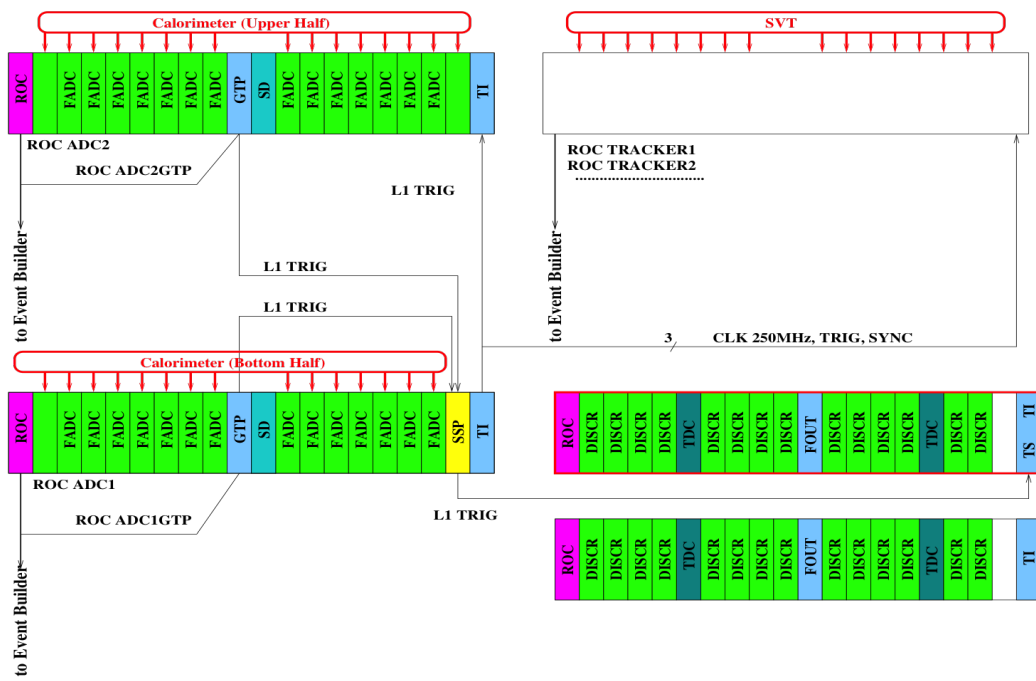

Figure 1: Schematic overview of the DAQ and trigger system.
The HPS experiment data acquisition (DAQ) handles the acquisition of data for the two sub-detectors: the SVT, and the ECal. HPS employs two DAQ architectures: the SVT is readout with Advanced Telecom Communications Architecture (ATCA) hardware while the ECal use VXS based hardware. The trigger system receives input from the ECal, and distributes a trigger signal to all detector subsystems to read out a selected event. Figure 1 gives a schematic block diagram of the DAQ system. For the ECal, every VXS crate contains a Readout Controller (ROC) that collects digitized information, processes it, and sends it on to the Event Builder (EB). The ROC is a single blade Intel-based CPU module running DAQ software under CentOS Linux OS. For the SVT ATCA system, a multi-ROC setup runs on embedded processors situated on the ATCA main board. The EB assembles information from the SVT and ECal ROCs into a single event which is passed to the Event Recorder (ER) that writes it to a RAID5-based data storage system. The DAQ network system is a Foundry router providing high-speed connections between the DAQ components and to the JLab computing facility.